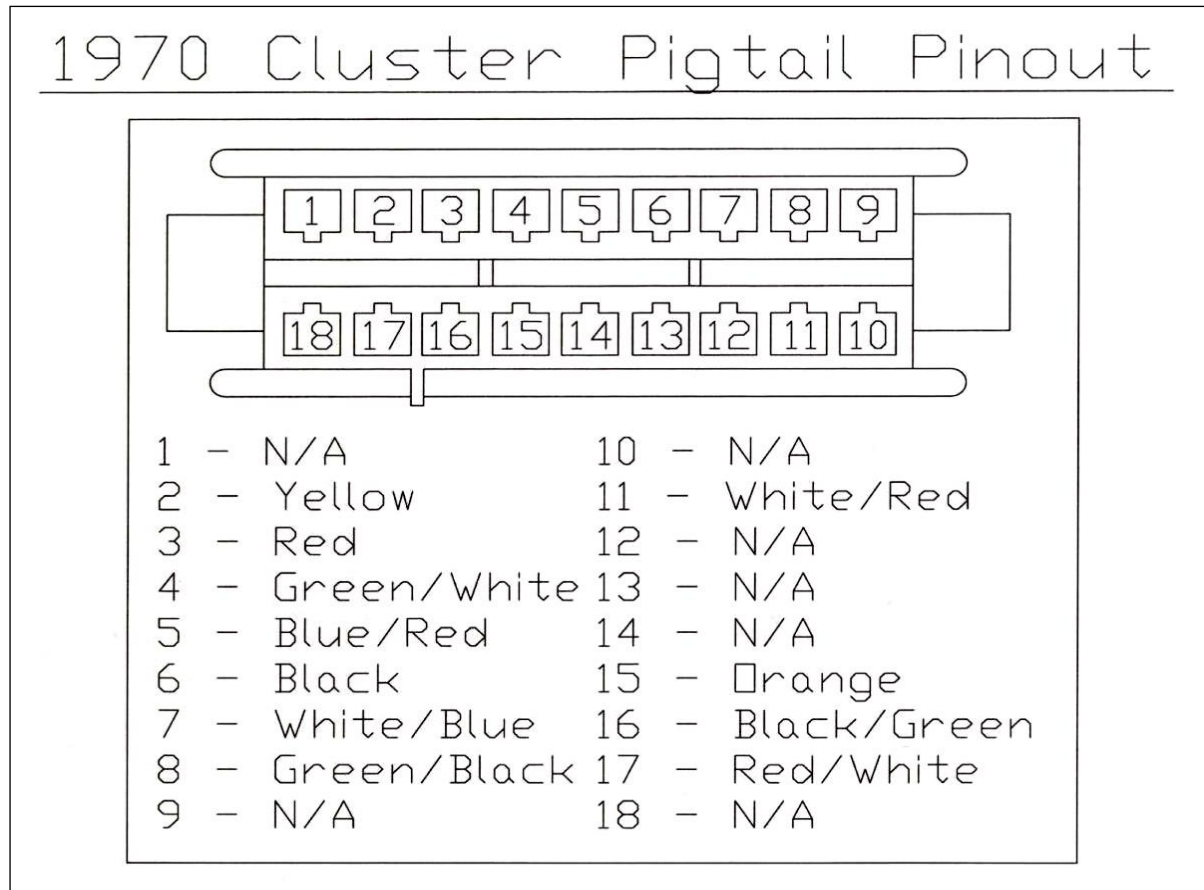

Figure 7-35 1970 Cluster Pigtail Pinout
- 7.16.1** For the years 1970 thru 1974 locate the '70 – '74 Cluster Pigtail in the harness kit. The connectors from 1970, 1971, 1973 and 1974 Ford trucks are all the same for the gauge clusters. Only 1972 Ford trucks have their own individual connector. The original connector for the gauge cluster must be reused on all trucks. **See Figures 7-35 thru 7-38. Locate the year of the truck being rewired and follow the diagram for the proper pin out.**